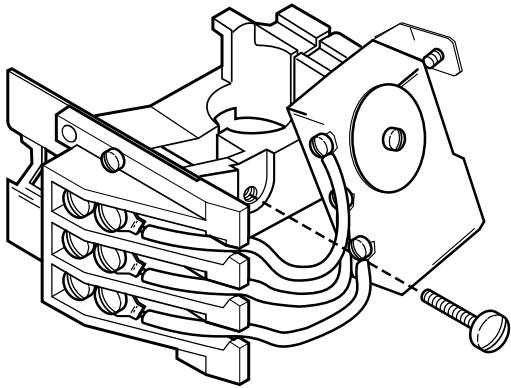

Figure 6
2. Loosen screw in split mounting clamp until mechanism slides freely on enclosing tube, refer to Figure 6.
2. Loosen screw in split mounting clamp until mechanism turns freely on enclosing tube, refer to Figure 6 on page 6.